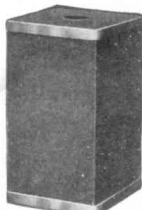

FIG. 1
3. Set up the lamp as described in the directions on the box in which it is packed. Fig. 1.